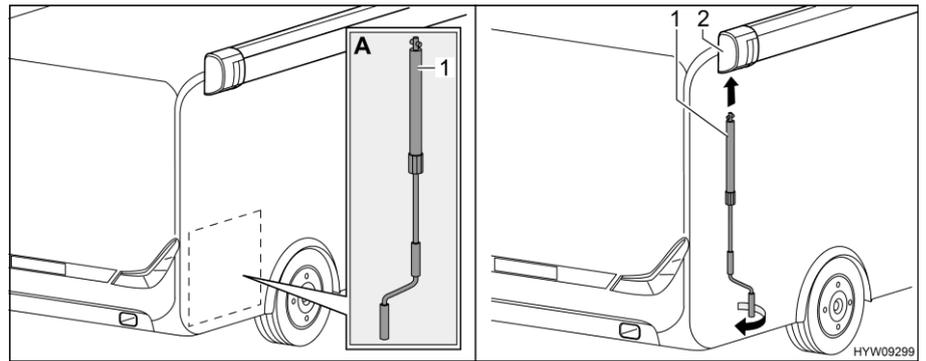

Fig. 43 Installing crank
- Take crank (Fig. 43,1) out of the rear garage (Fig. 43,A).
- Insert crank into bayonet socket (Fig. 43,2) of the awning.